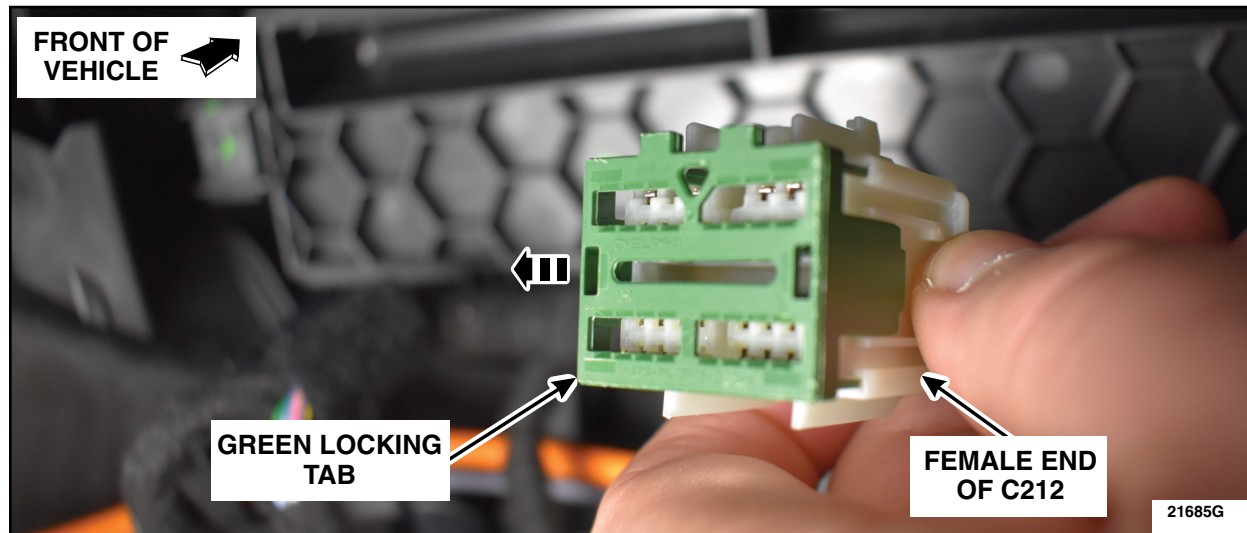

FIGURE 6
- 1. Page 7, Step 10, Figure 6. Inspect the female end of C212 for a Gray (GY) wire in pin 1 and a Gray-Orange (GY-OG) wire in pin 4. If both wires are present, Proceed to Step 2.*
10. Remove the green locking tab on the female end of C212. See Figure 6.